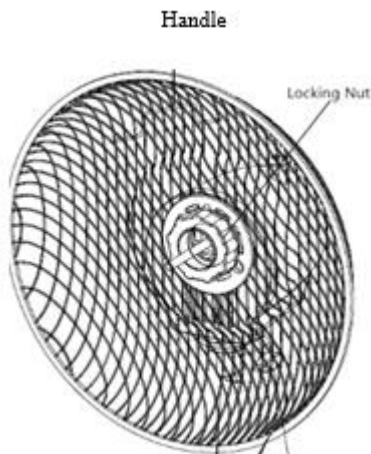

Fig. 2
- Install the rear protective net. In this case, the transfer handle on the grid should be at the top (Figure 2)